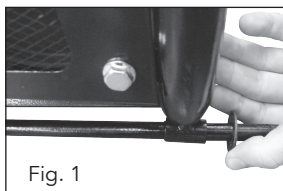

Fig. 1
1. Push the axle (5) through the generator frame, place a washer (23) on the outside (Fig. 1).